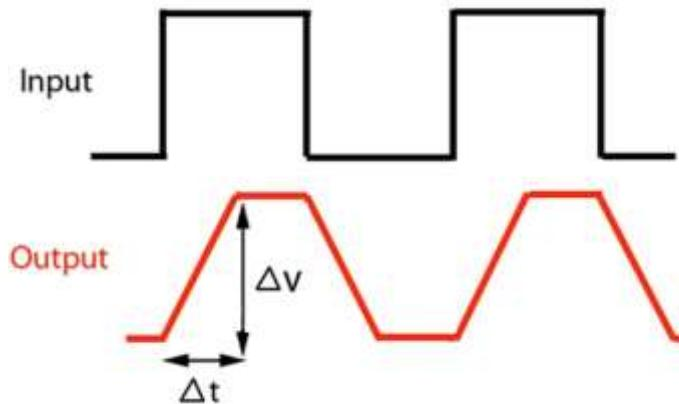

FIGURE 12.1-3
- 2) Apply power to the breadboard and adjust the square-wave input signal at 5 V peak-to-peak with a frequency of 10 kHz. The output signal should have a trapezoidal shape, as shown in Figure 12.1-3. If the operational amplifier were ideal (infinite slew rate), the output signal would look the same as the input signal at very high frequencies, except for the phase shift. Because the op-amp is not ideal, it does take a finite amount of time for the large-signal amplifier to switch from one voltage extreme to the other.